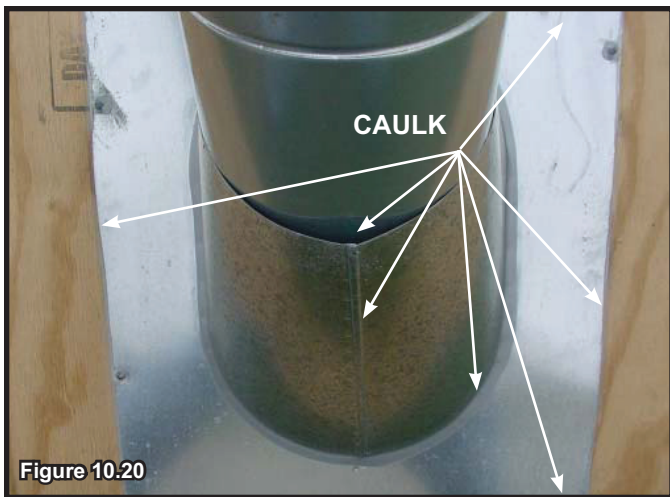

Figure 10.20
- Slide the roof flashing over the pipe sections extending through the roof as shown in Figure 10.20.
- Caulk the perimeter of the flashing where it contacts the roof surface. See Figure 10.20.